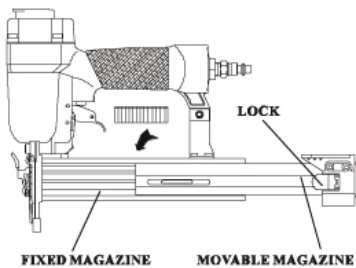

Figure 3
1. Depress the lock to release the movable magazine and pull the magazine out fully as shown in Figure 3.